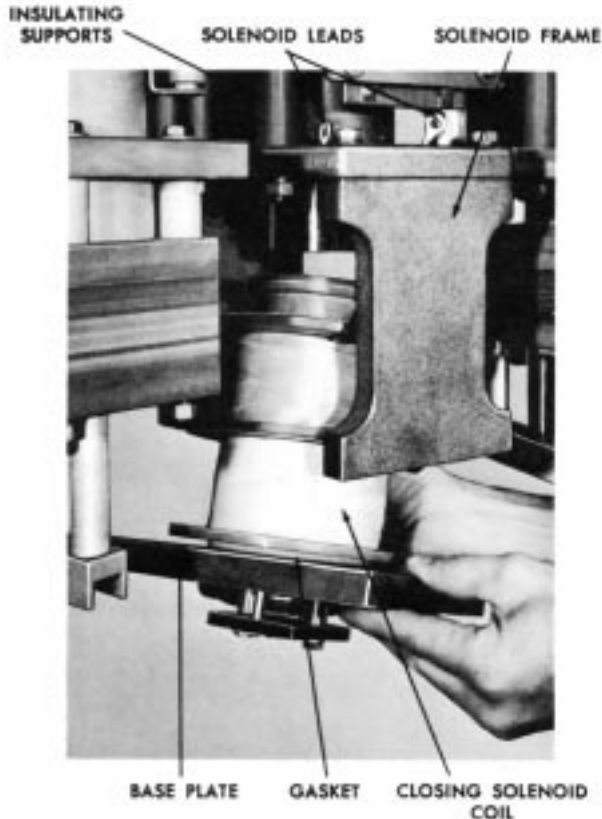

Figure 11
1. Disconnect the two coil leads from the closing solenoid contactor, figure 11.